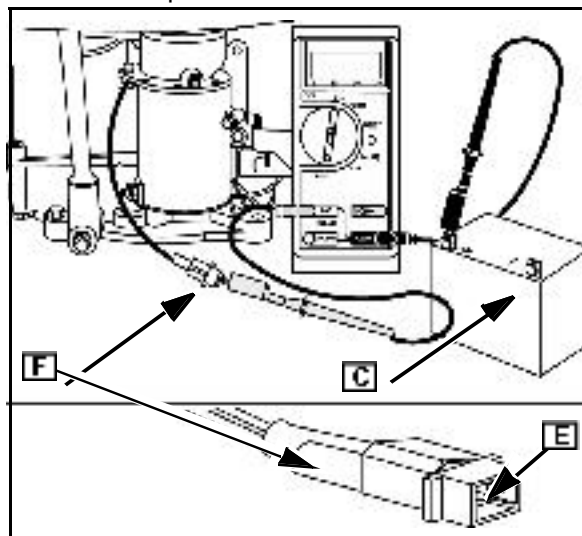

Fig. 27
2. Attach RED test lead clip to DC output pin ([E] Fig. 27) in the connector ([F] Fig. 27).